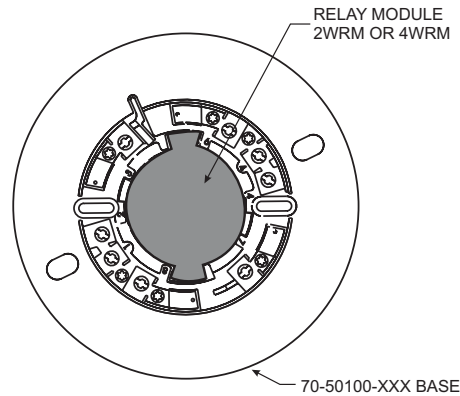

Figure 7. Relay Module
3. Secure into position by twisting clockwise as shown in Figure 7.
5. Secure the wire under terminals 3 and 4 shown in Figure 7.